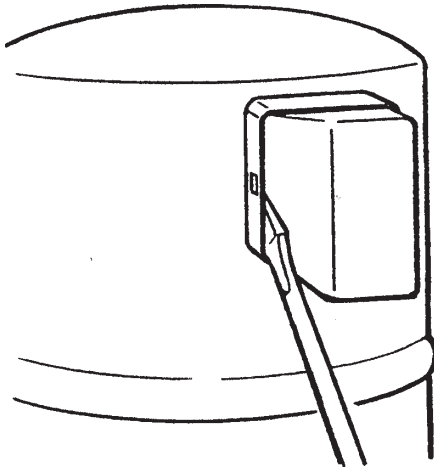

Figure 72. Compressor Cover Removal
1. Remove the compressor terminal cover by inserting a standard screwdriver between the terminal cover and the compressor cover frame, then gently pry off from the right side, then the left (Figure 72).